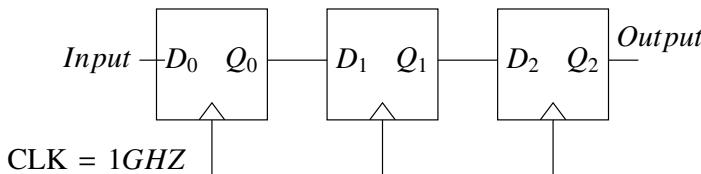

Fig. 5.8
8. The synchronous sequential circuit shown below in Fig. 5.8 works at a clock frequency of $1GHz$. The throughput, in $Mbits/s$, and the latency, in ns , respectively, are